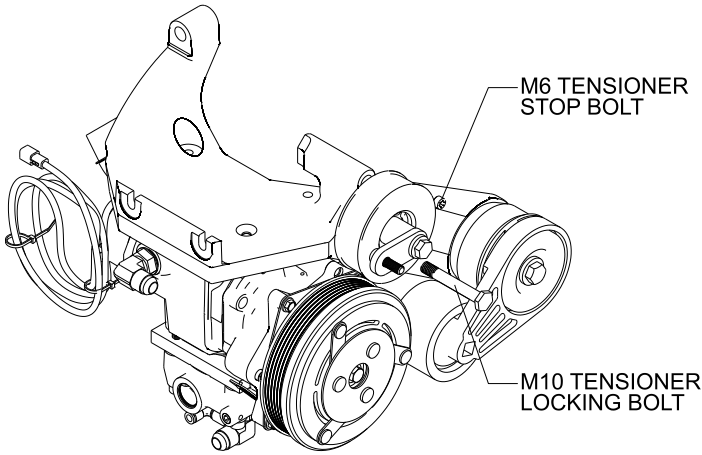

Figure 3.5
- ☐ Lock the tensioner in the loaded position with an M10 (Figure 3.5).
- ☐ Apply loctite and install the M6 tensioner stop bolt (Fig 3.5).